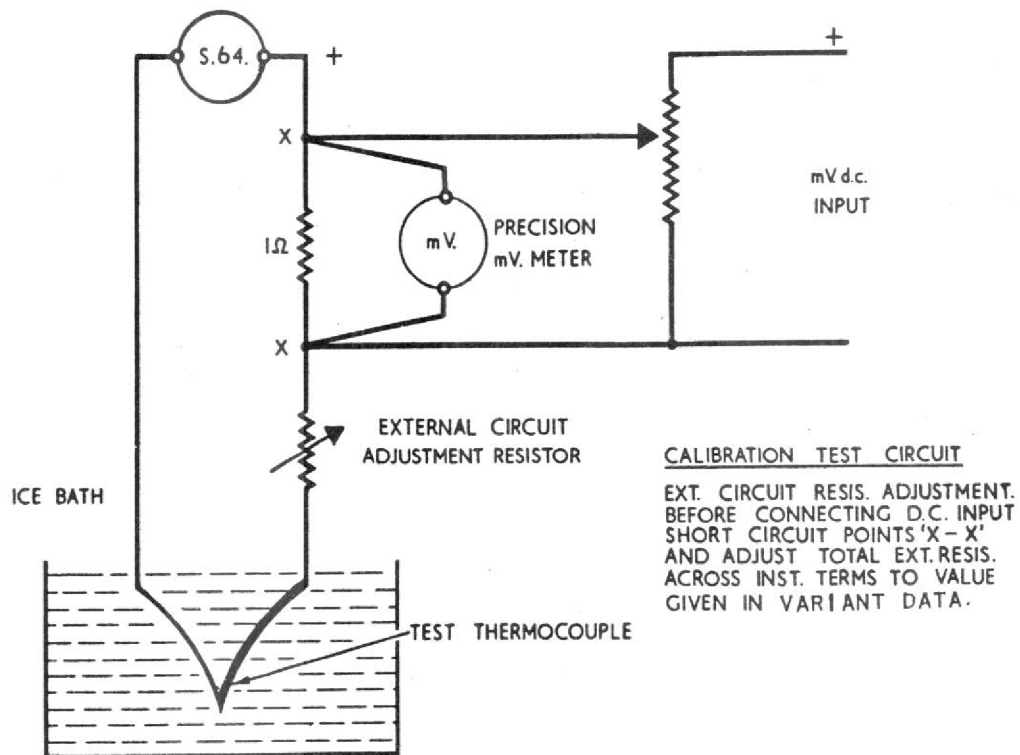

Fig. 701 Test Circuit Diagram
A. Preparation (Refer to Fig.701)
- (1) Obtain a flask to hold melting ice and a test couple which should preferably be of copper/copper-nickel. A precision grade d.c. millivoltmeter, similar to Sangamo Weston Model S82 with preferred ranges of 0/20mV, 0/50mV and a resistor of approximately 1 ohm are also required.